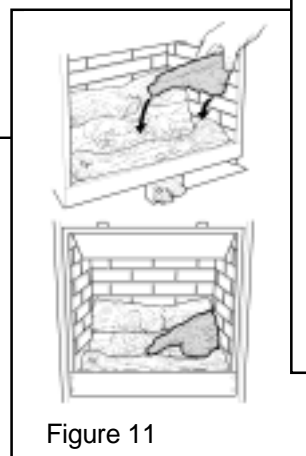

Figure 11
4. Place the right side log in the hollow at right of the base log. Rest the narrow nose of this log on the projection at front centre of the base log – ***It is important that the narrow nose does not drop down to touch the burner.*** See figure 11.